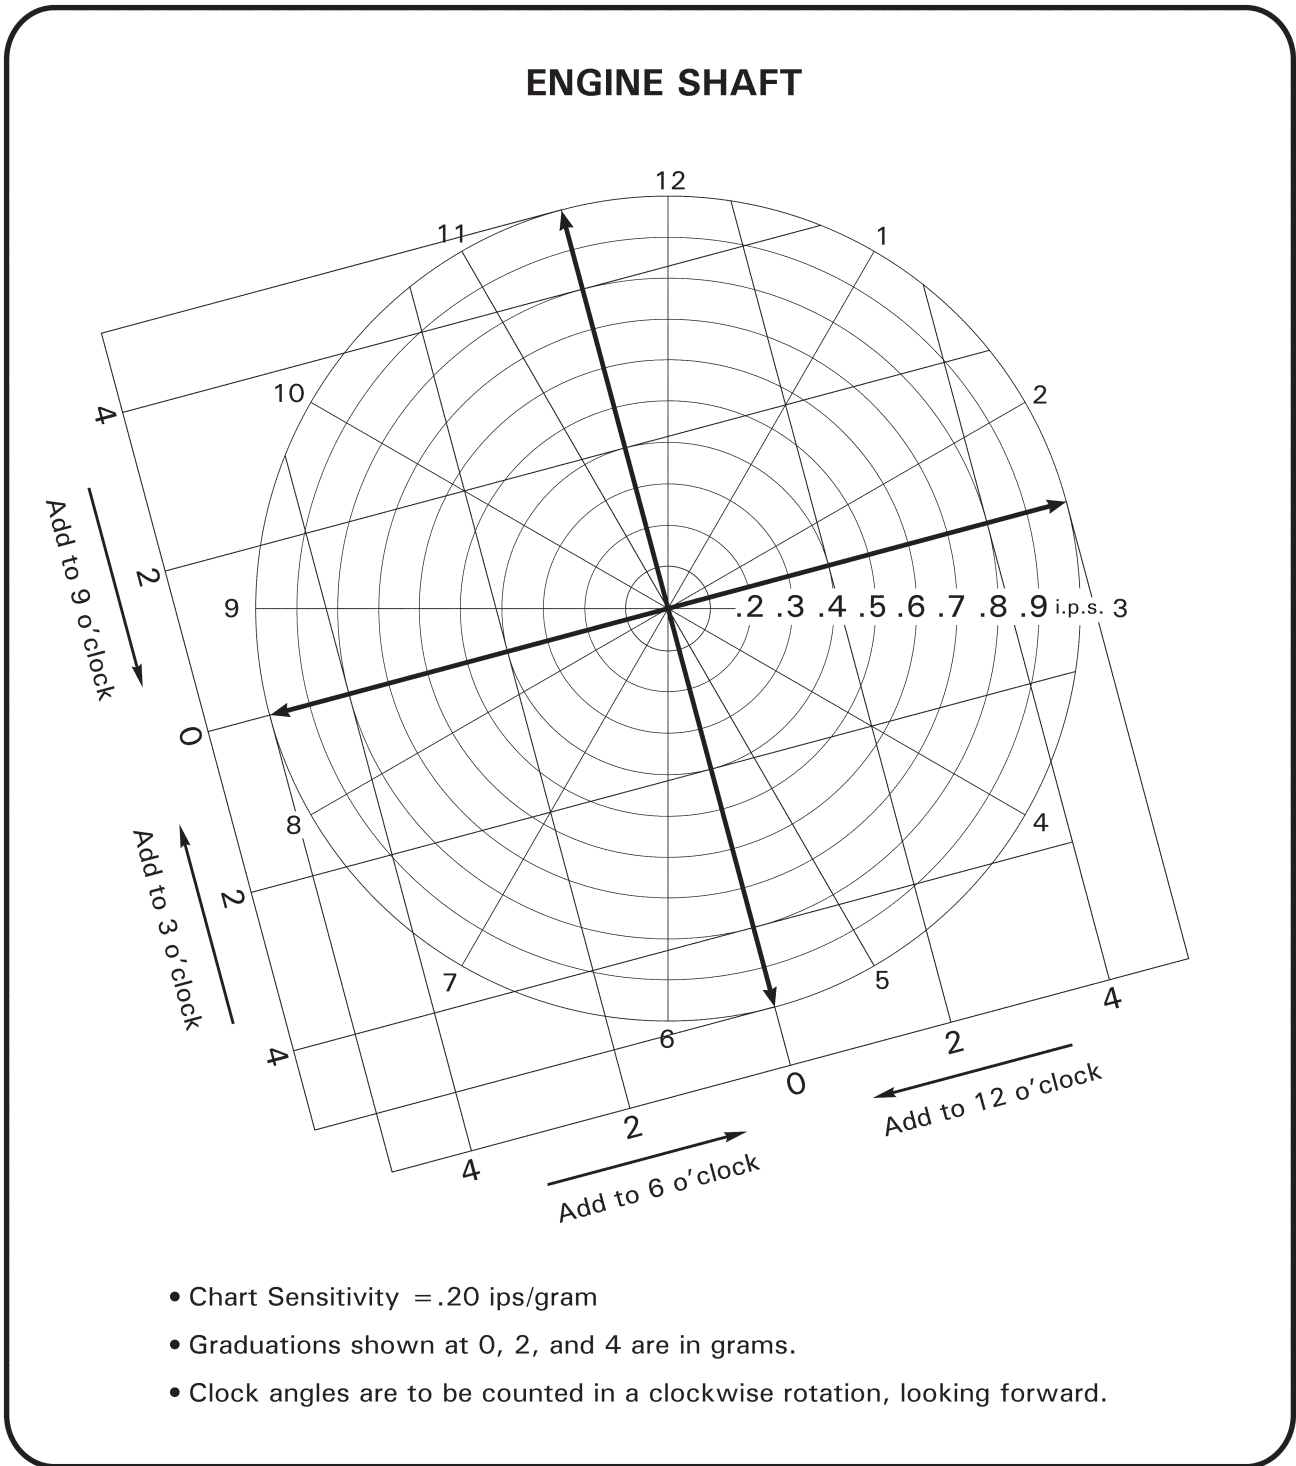

FIGURE 18-14 ENGINE SHAFT BALANCING CHART
2. Engine Shaft: Refer to Figure 18-14. Adjust balance by selecting one or more NAS1149D0463J, NAS1149F0432P, NAS1149F0463P, A214-3, or A141-14 washers as required and install under one nut of aft flex plate (engine driveline) fastener. After first adjustment, if engine shaft does not respond correctly to balance weight, verify runout of F018 clutch housing's largest diameter; radial runout must not exceed 0.005 inch TIR (rotate TR backwards by hand to rotate clutch housing) before making further weight changes. If runout exceeds TIR limit, contact RHC Technical Support. Standard torque fasteners per § 20-32, but do not torque stripe.